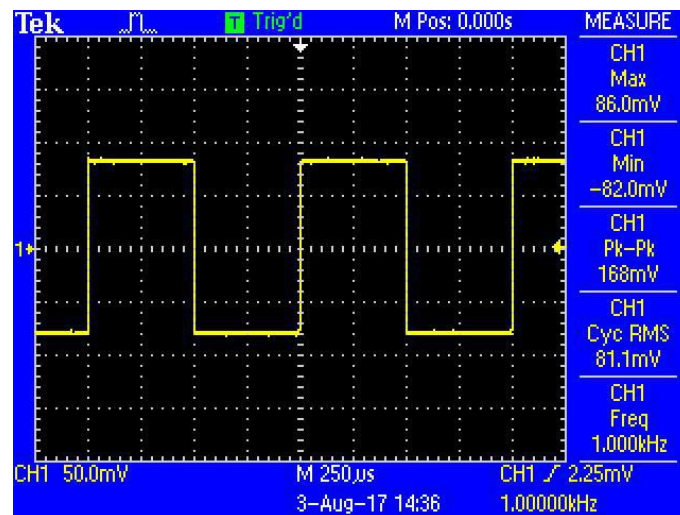

Fig.91 Measured Signal Parameter
3. Turn on the function signal generator and set “Function: Square”, “Amplitude: 80mVrms”, “Frequency: 1 kHz”, as is shown in Fig.91.